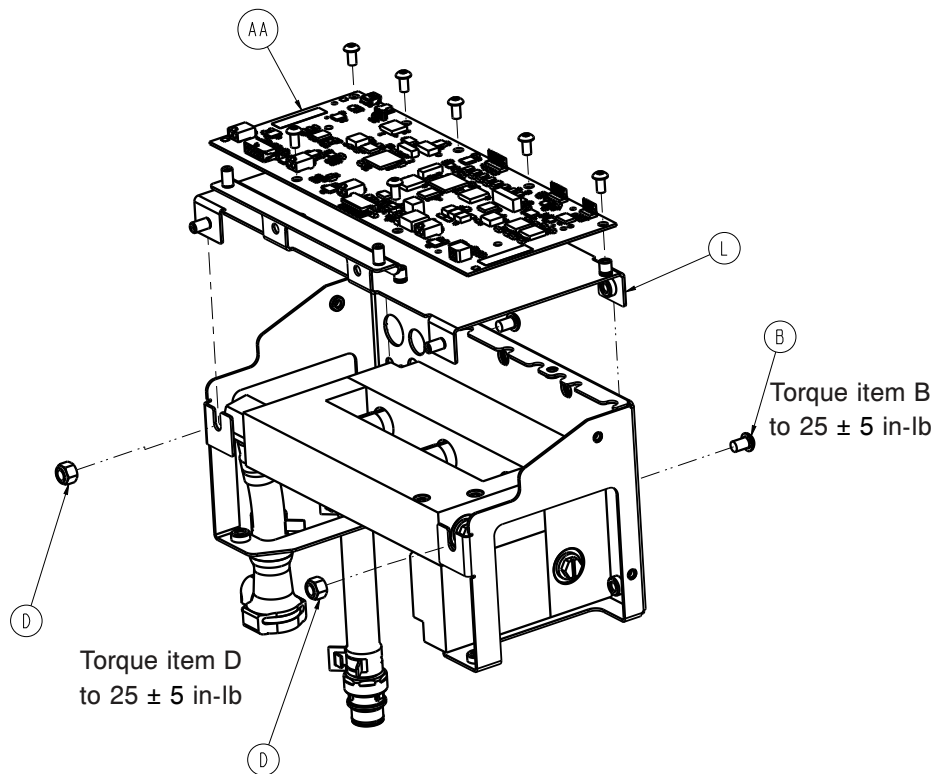

Figure 42 – MCB bracket
15. Using a T27 Torx driver, remove the two screws (B) (Figure 42) that secure the MCB bracket to the control assembly bracket. Save the screws.